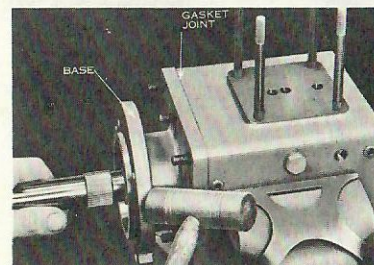

FIG. 3-1
1. Remove eight locknuts and eight stud nuts. Pull off base, Fig. 3-1. Drive against edge of base with plastic hammer as shown to break loose gasket. Pull evenly to clear dowel pins.